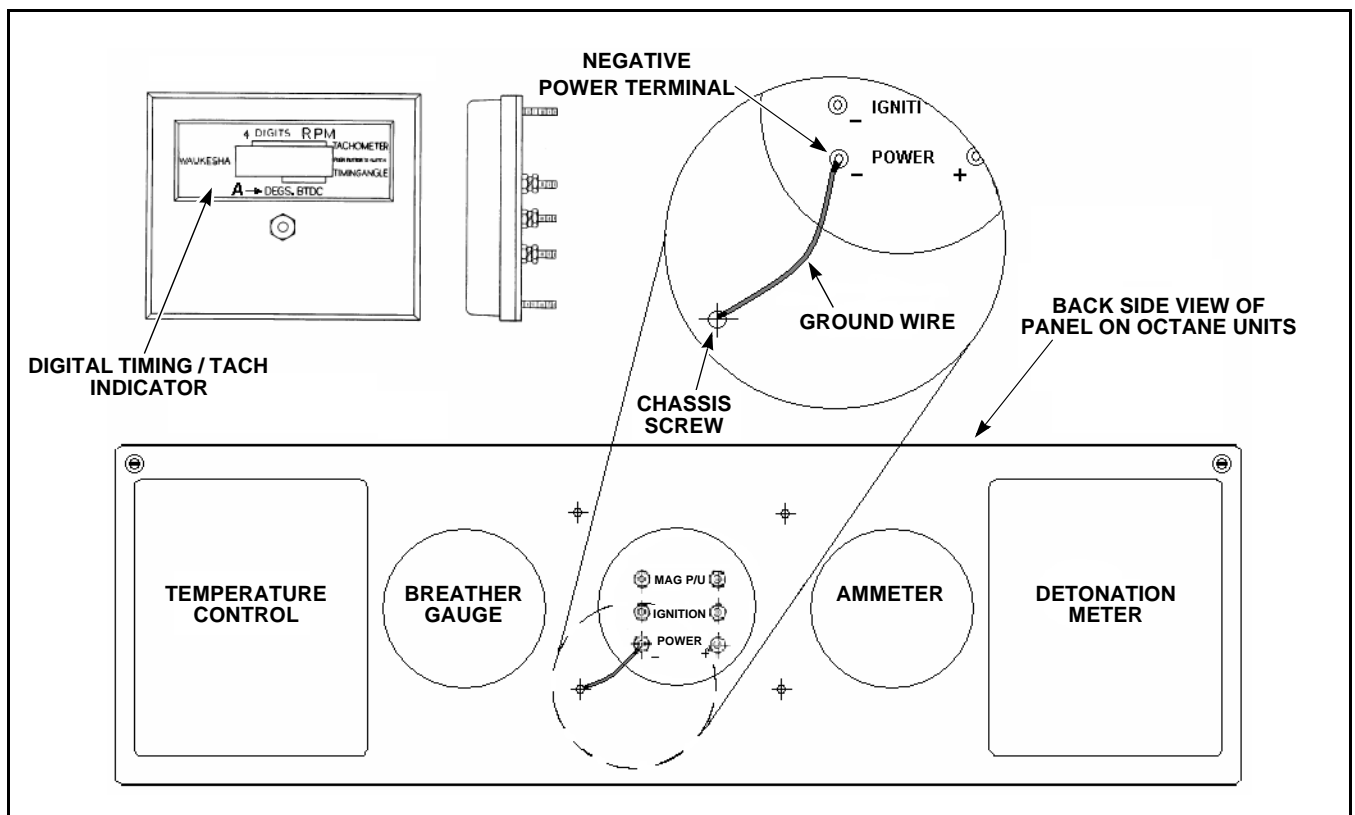

Figure 1. Digital Timing/Tach Indicator
3. Locate negative power terminal on back of Digital Timing/Tach Indicator. Unscrew terminal and remove ground wire (see Figure 1).